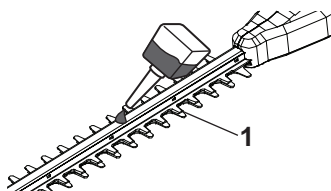

Fig. 18
13. Lubricate the internal surfaces of the blade if the cutting device (blade) (1) overheats during operation (Fig. 18).
1. Keep the cutting device (blade) (1) clean and free of debris. Remove trimmings with a brush.
2. Apply a small amount of suitable lubricant on the cutting device (blade) to retain a good cutting performance (Fig. 18).